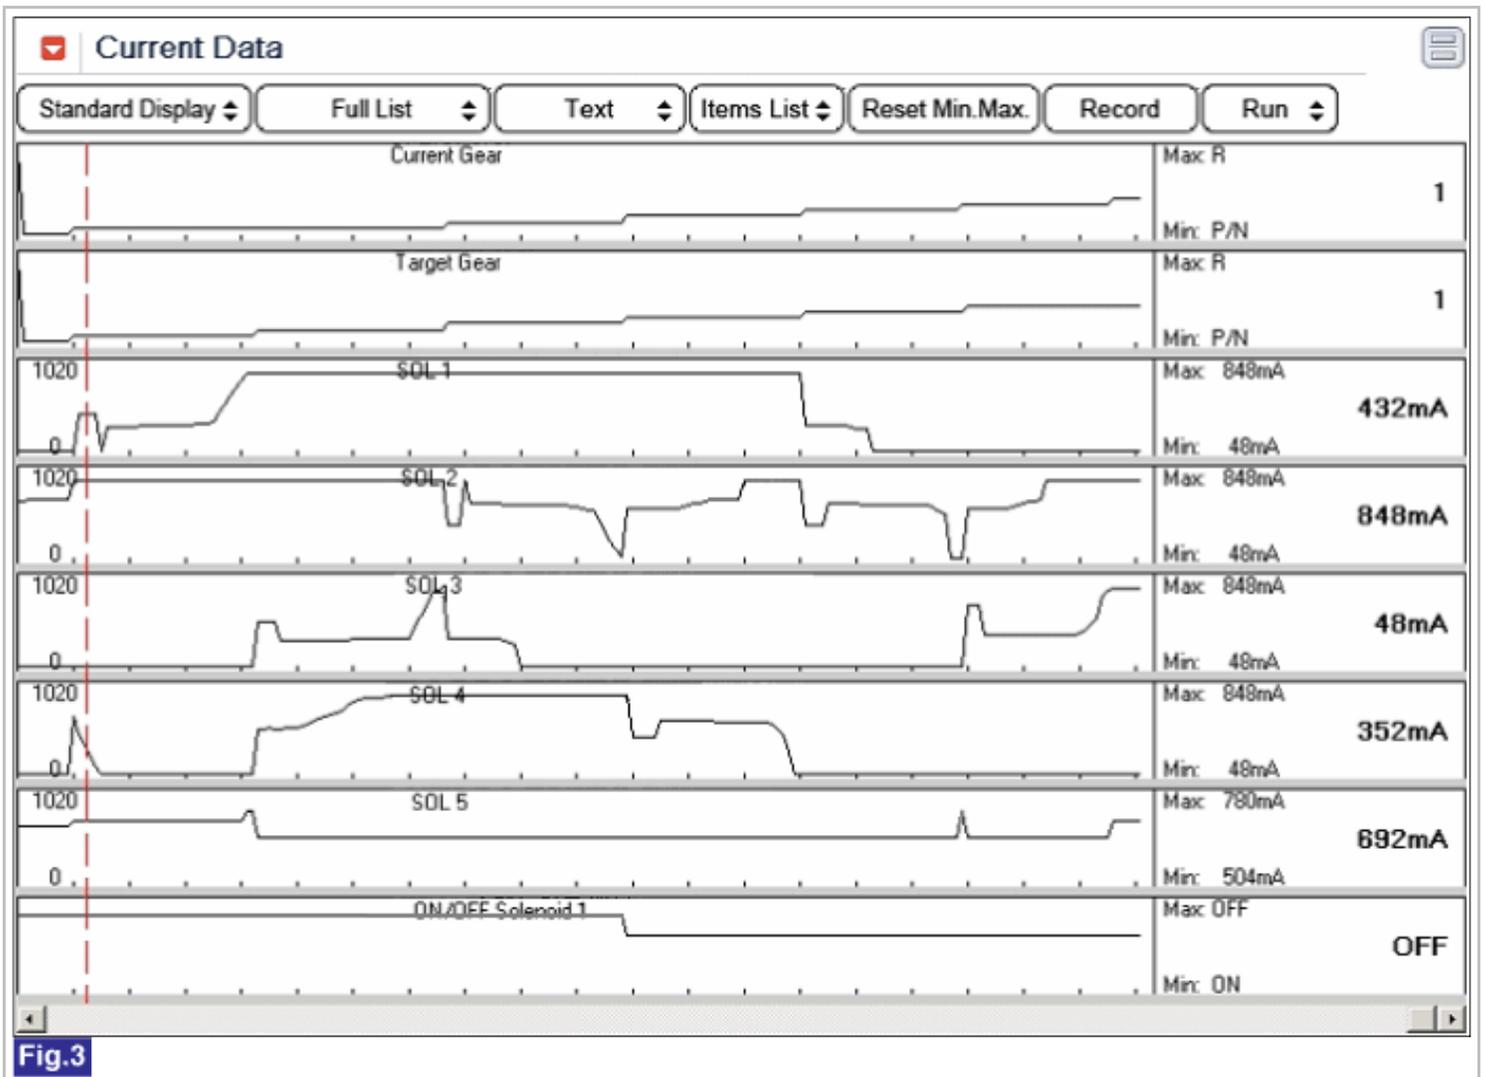

Fig.3
- Fig 3) Solenoid operating status - start to shift